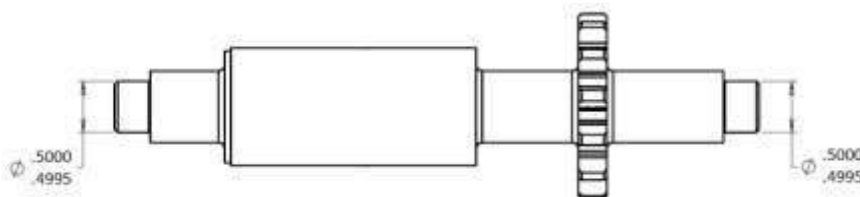

Figure 55
- (1) Clean the PMA body and shaft with denatured alcohol.
- (2) Inspect the shaft and body for any foreign material, including metal shavings. If foreign material is found and cannot be removed, replace the PMA.
- (3) Inspect the shaft as follows:
- (a) Using a micrometer, measure the diameter of each end of the shaft and ensure the measurement is within .4995 and .5000 inches (Figure 55). If measurement is not within .4995 and .5000, replace the PMA.